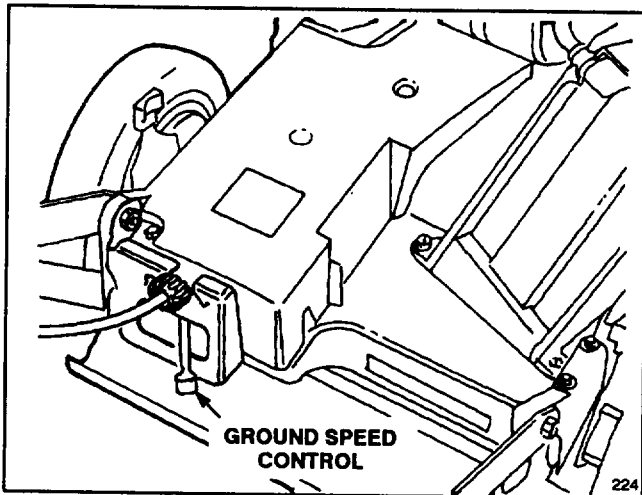
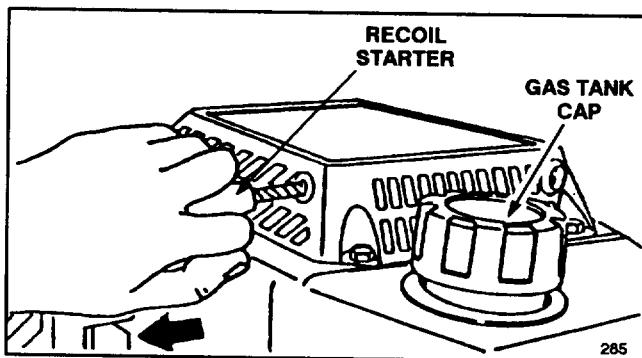

Figure 10
Figure 11
1. Clean around fuel tank cap and remove cap from tank (Fig. 11). Using unleaded gasoline, add fuel to 1/4" to 1/2" (6 to 13 mm) from top of tank, not into the filler neck. Do not fill the tank full.
Ground speed control is located at rear of belt cover (Fig. 10). Recoil starter is on top of engine (Fig. 11).
- Remove cap from fuel tank (Fig. 11) and use pump-type syphon to drain fuel into clean gas can.